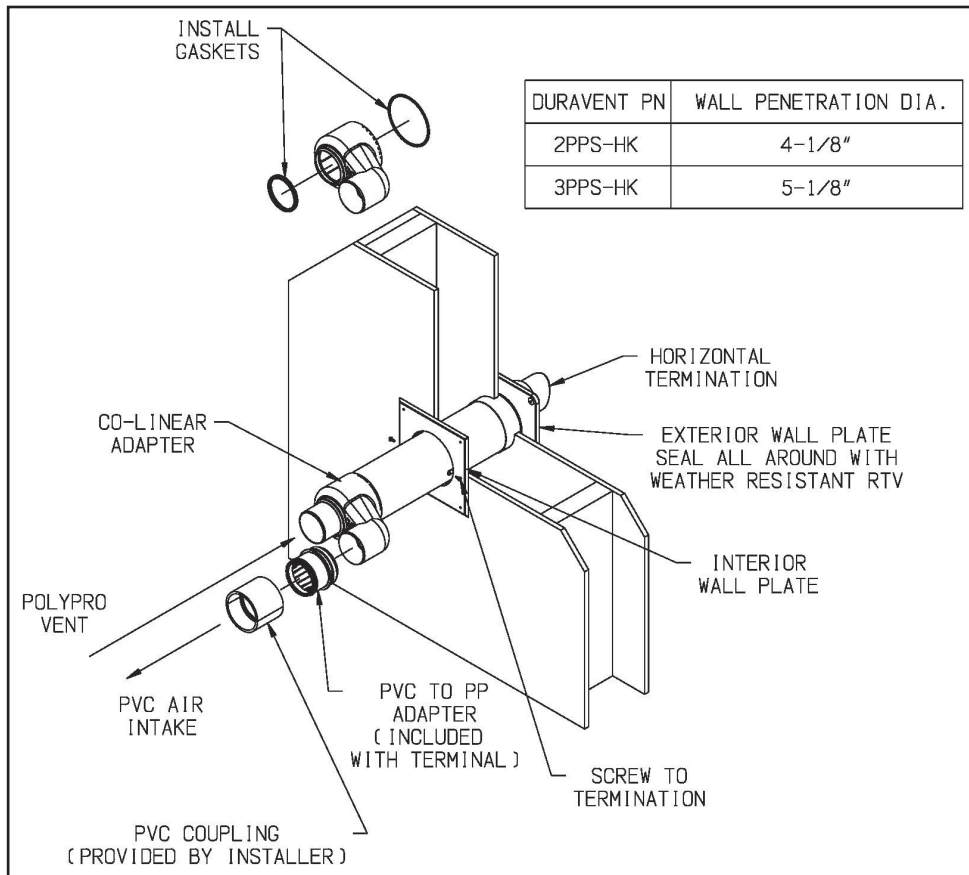

Figure 7.38: Installation of DuraVent PolyPro Concentric Vent Terminal Through Sidewall
6. Installation of DuraVent PolyPro Horizontal Concentric Vent Terminal (Terminal Option D) - Install PolyPro Horizontal Concentric Termination Kit #2PPS-HK or #3PPS-HK (Figure 7.38) as follows: